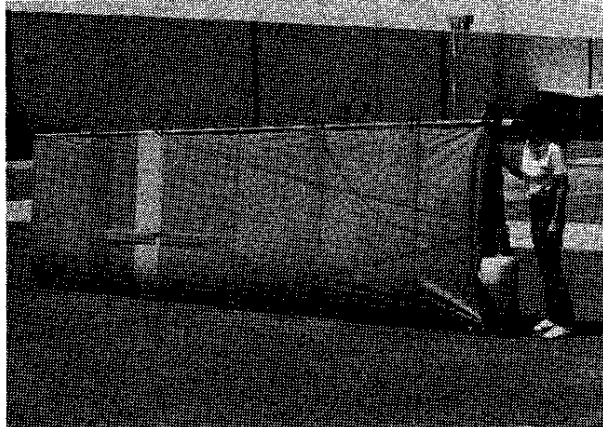

Figure 2.2
4. Stand Quicksilver MX wings on leading edges and root tube. Protect sail with leading edge pads. **Figure 2.2**